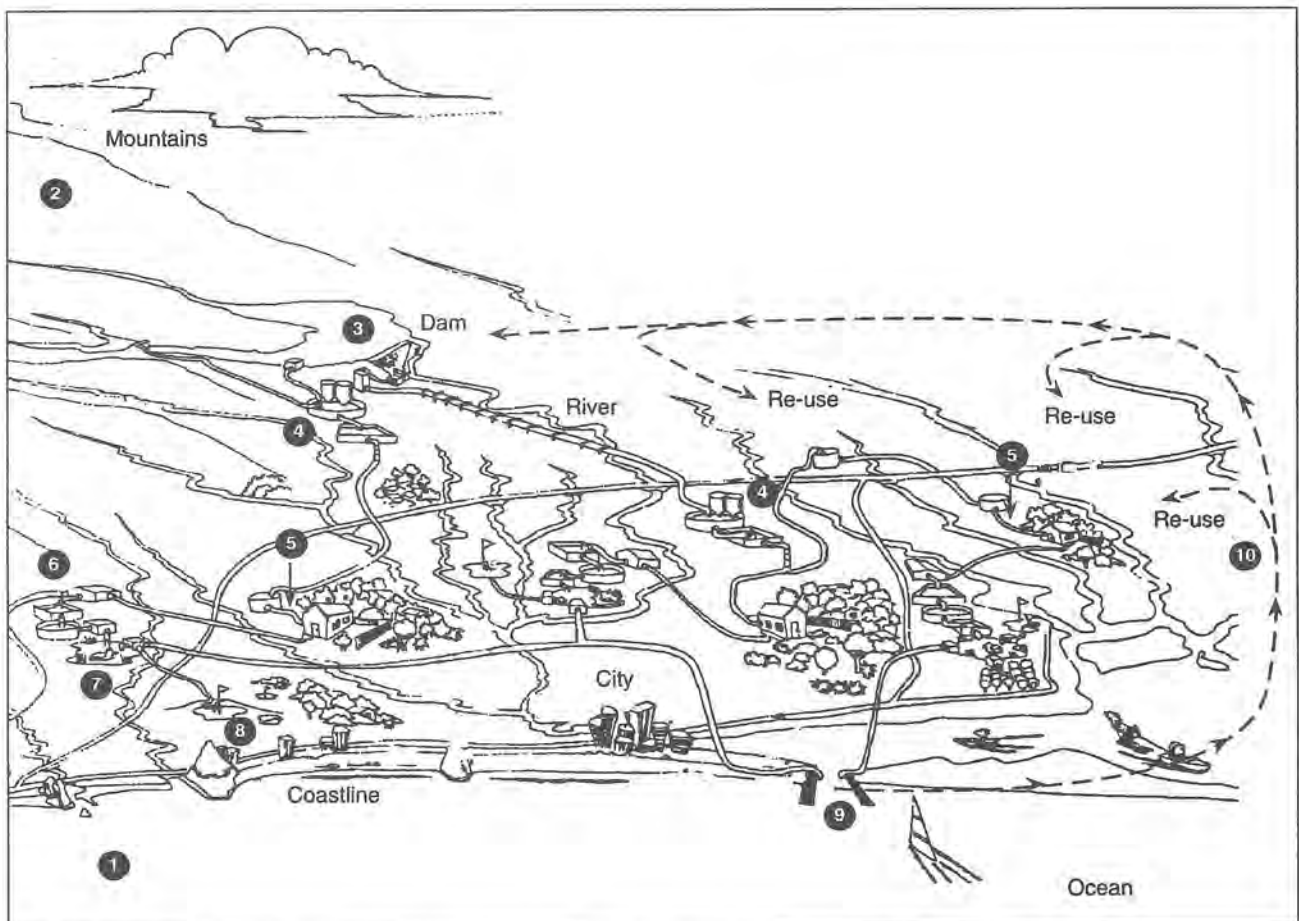

Fig 2 A schematic illustration of a coastal urban area showing its use of surface water.
Figure 2 shows a schematic illustration of a coastal urban area showing its use of surface water. Alternatively if groundwater was the source of the city's raw water then item 3 in Figure 2 would be replaced by a bore or series of bores.
Storm water runoff from downpipes, roads and fields has not been shown on Figure 2.